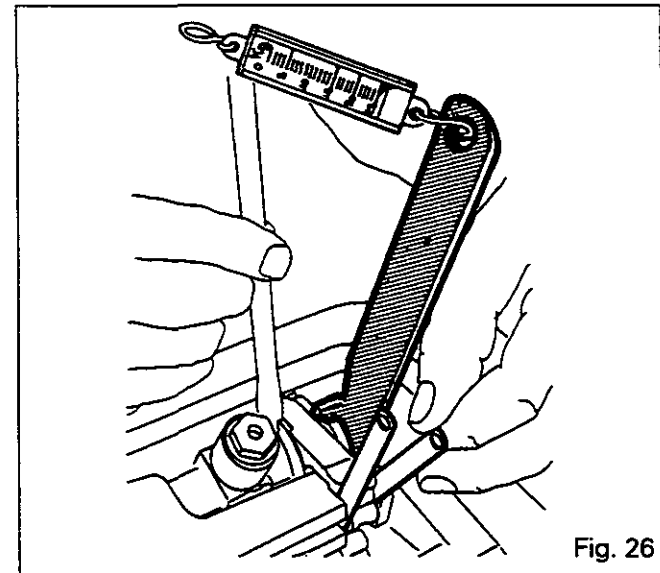

Fig. 26
99. Tighten the castellated nut (**21**) to a torque of 50 Nm using the special wrench, 3615334 M01, and a spring scale (Fig. 26).